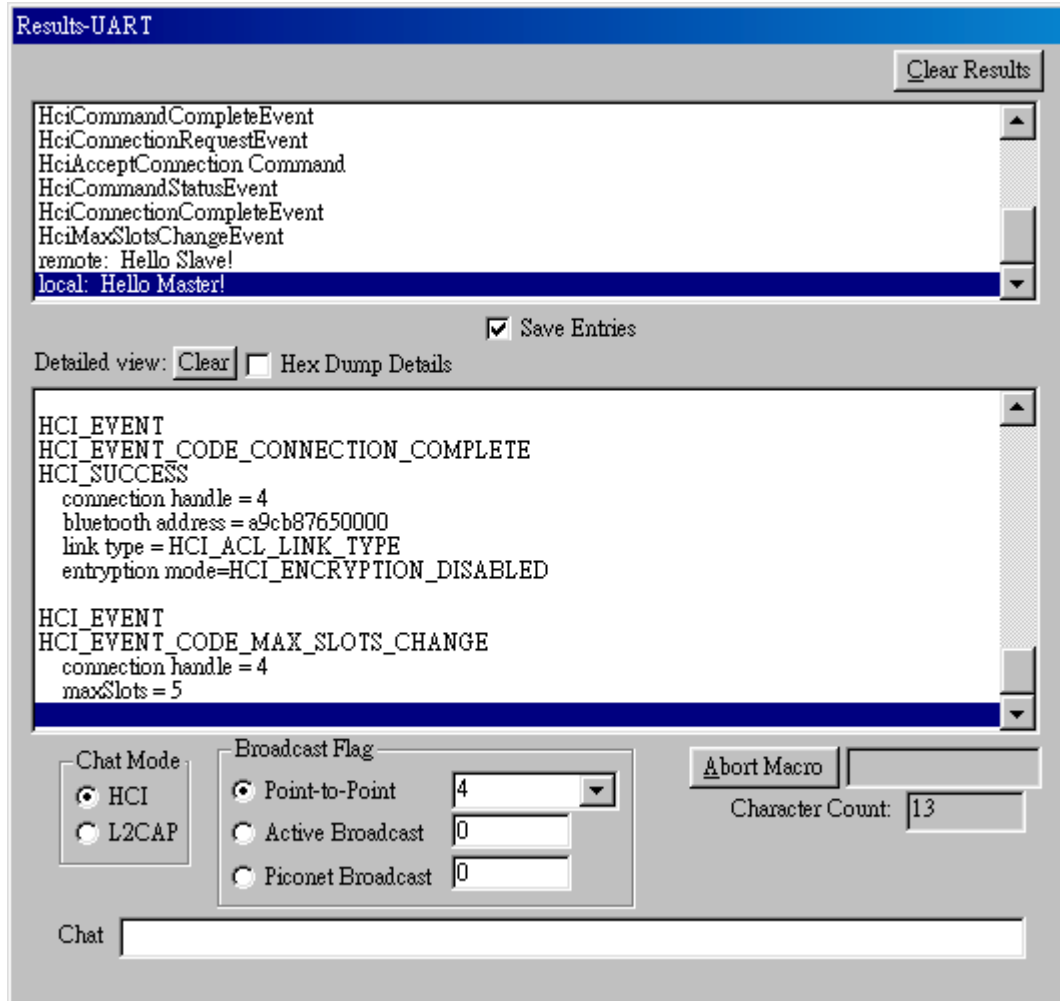

Figure 24: Receive “Hello Slave!” and Type in “Hello Master!” in Slave Device Side
11. On the Slave computer, the screen show **“Hello Slave!”** message from Master computer. Then on the Slave side input **“Hello Master!”** message into **“Chat”** dialogue box and click **“Enter”** button on the keyboard to send the message back to Master computer. (as Figure 24).